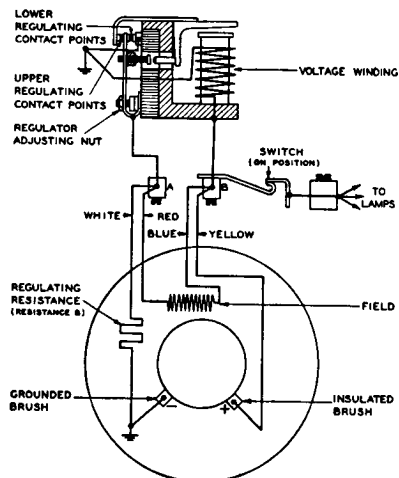

FIGURE 7
The direction in which the generator must rotate is indicated by an arrow on the generator frame. Figure 7, illustrates the proper connections for anti-clockwise rotation of these units when viewed from the drive end.
The regulator unit (32) is of rugged construction, having a high contact pressure and powerful magnet which eliminates the influence of engine vibrations on its performance. The following is a general explanation of the functioning of the regulator, with the switch in the 'ON' position (see Figure 7).